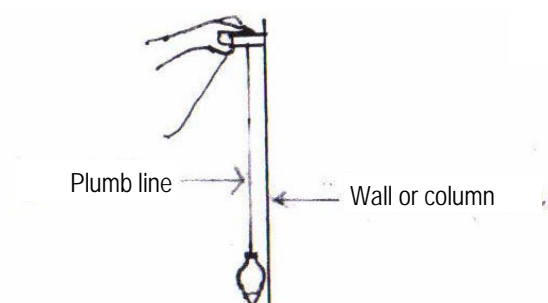

Fig 14 - **Checking verticality of surfaces**
- Correctly used a reliable **plumb-line** (chord with weight for checking if walls are vertical) to make sure the walls are vertical (See fig. 14)